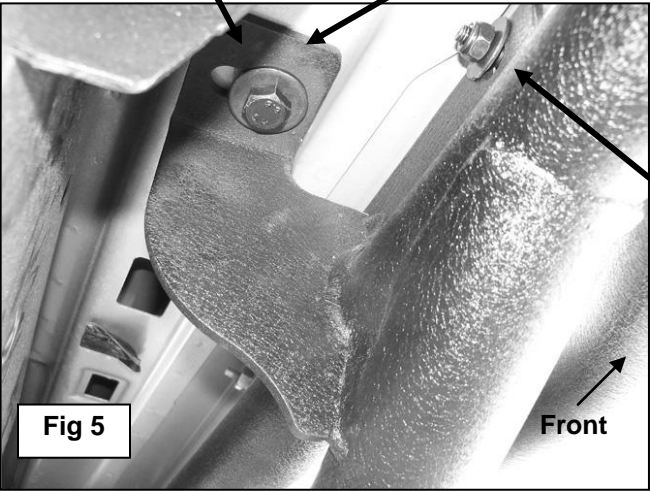

Fig 5
- c. Bolt each top tab on the Side Armor to the Nut Plate with (1) 10mm x 35mm Hex Bolt, (1) 10mm Lock Washer and (1) 10mm Flat Washer, (Figure 5).
3. Line up the (2) vertical mounting plates on the Side Armor with the (4) factory holes in the pinch weld. Bolt the plates to the **back** of the pinch weld using the included (4) 6mm x 25mm Hex Bolts, (4) 6mm x 18mm Small Flat Washers, (against pinch weld), (4) 6mm x 22mm OD Large Flat Washers, (inside against the bracket) and (4) 6mm Nylon Lock Nuts, (Figures 5 & 6). Leave loose at this time.